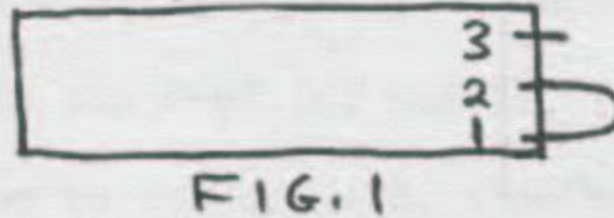

FIG. 1
7. Jumper terminals 1 and 2 on digital block. (See Fig. 1)